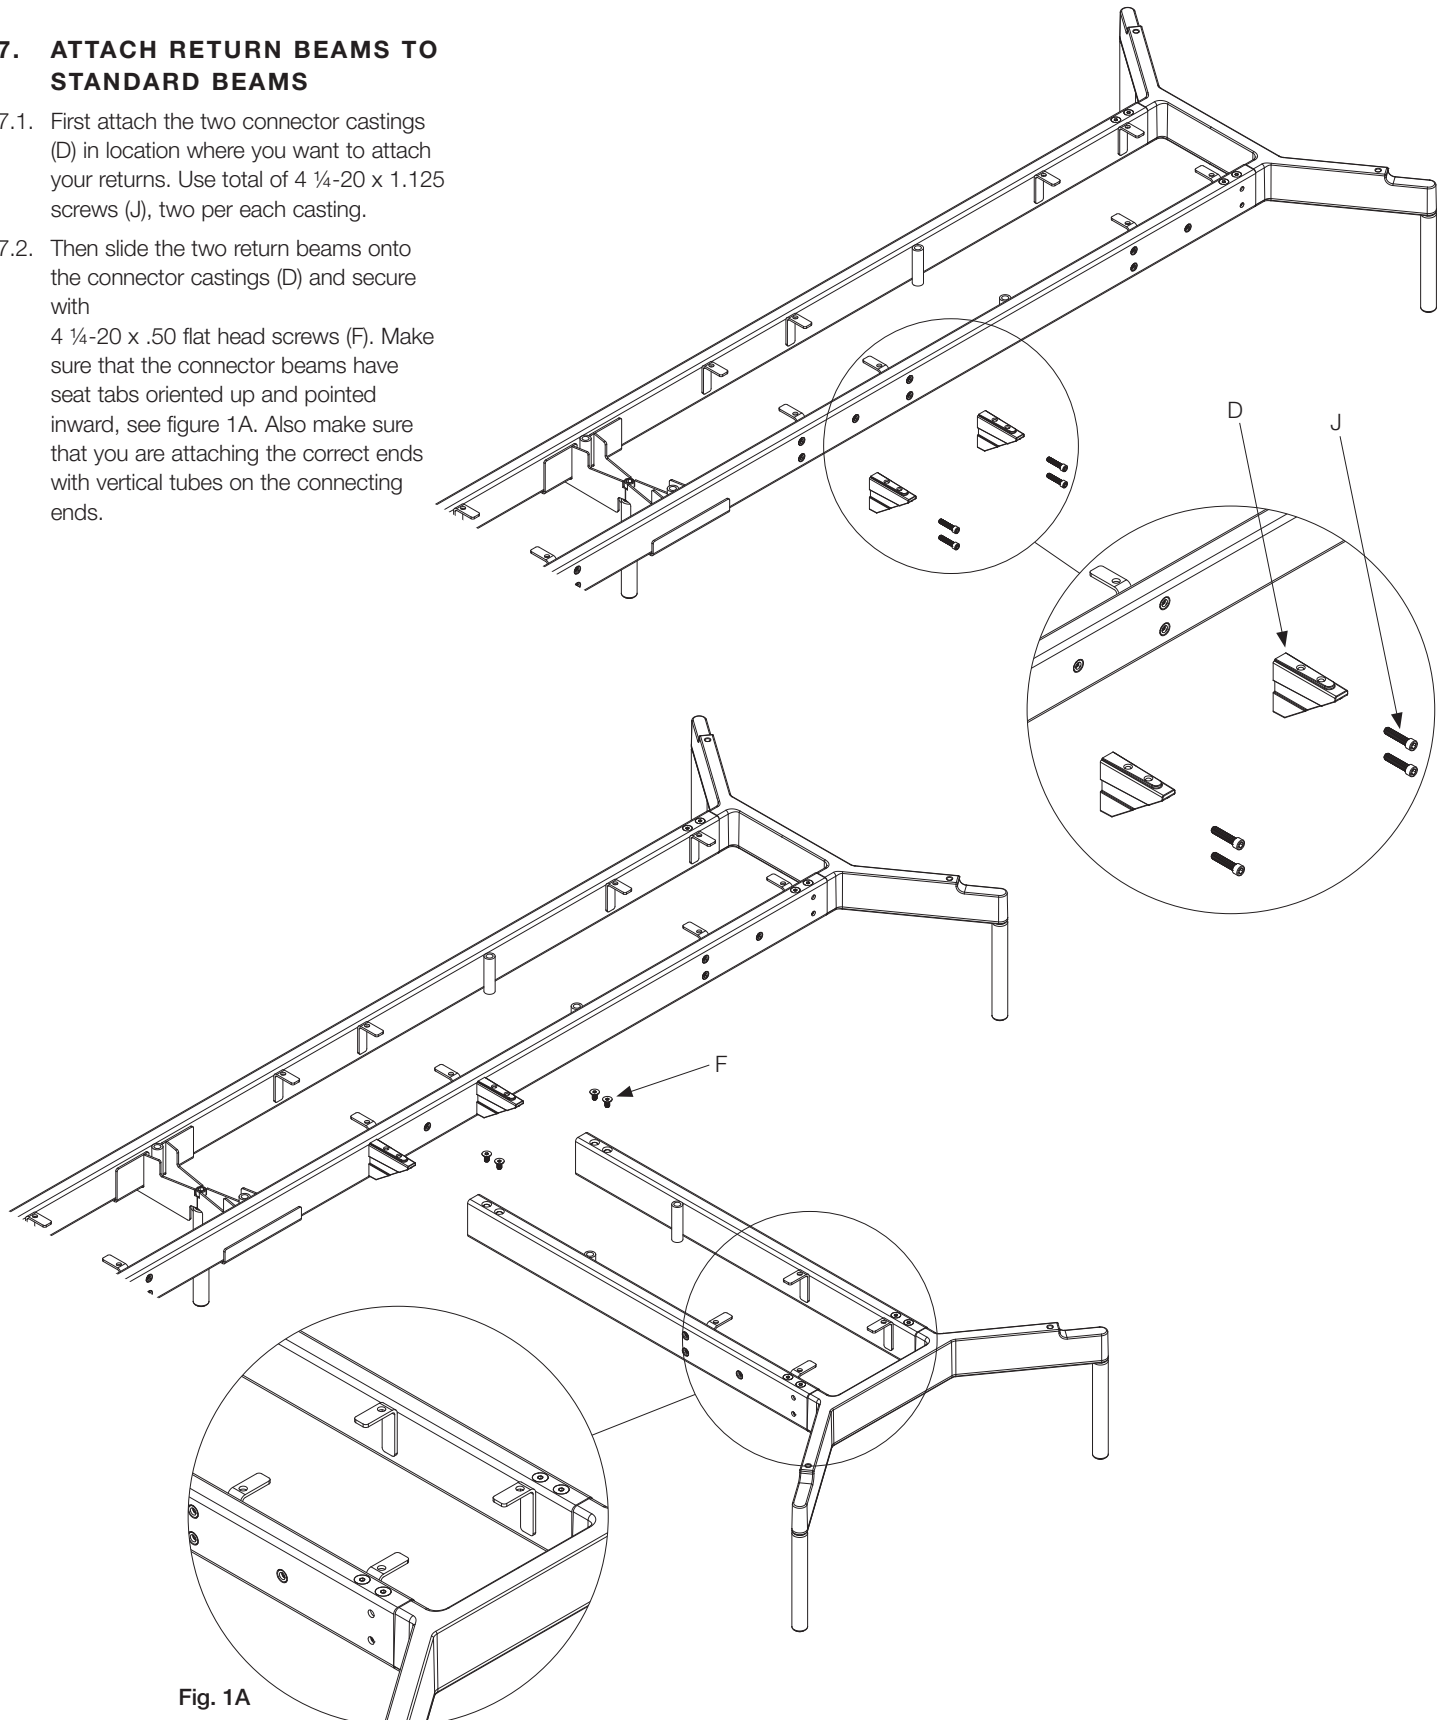

Fig. 1A
- 7.2. Then slide the two return beams onto the connector castings (D) and secure with 4 ¼-20 x .50 flat head screws (F). Make sure that the connector beams have seat tabs oriented up and pointed inward, see figure 1A. Also make sure that you are attaching the correct ends with vertical tubes on the connecting ends.